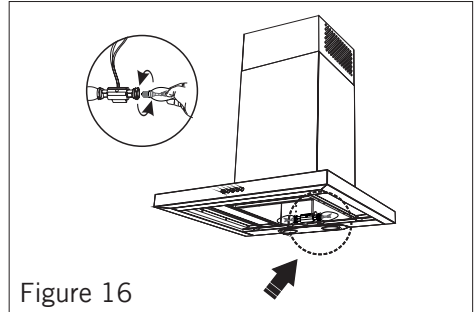

Figure 16
- Remove the holder on the LED bulb. Put the new LED bulb on the holder housing of the LED bulb you removed as shown in **Figure 16**.